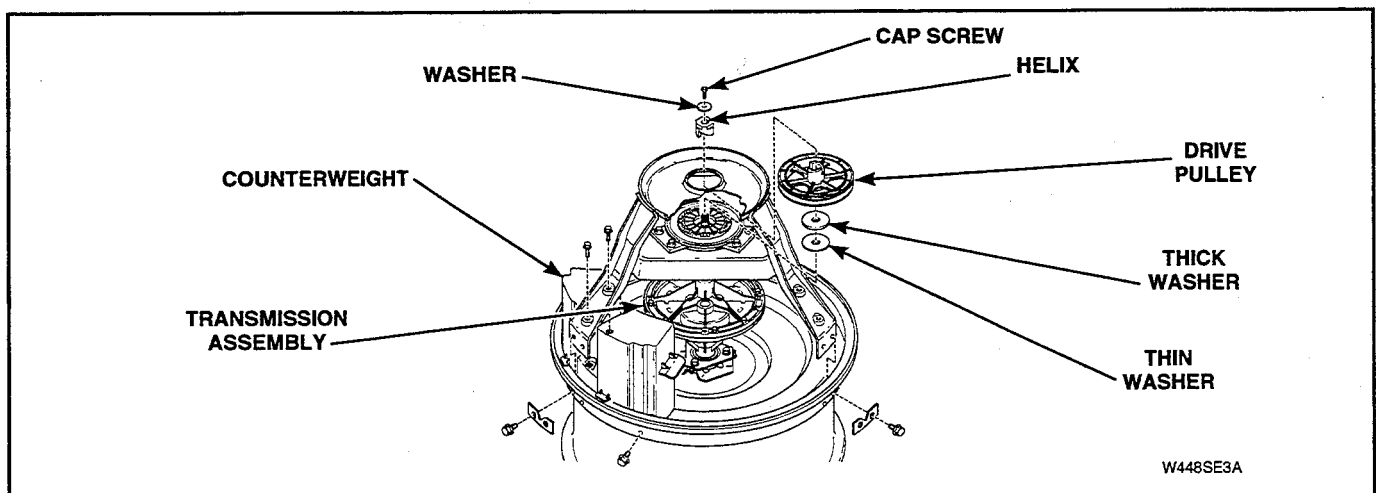
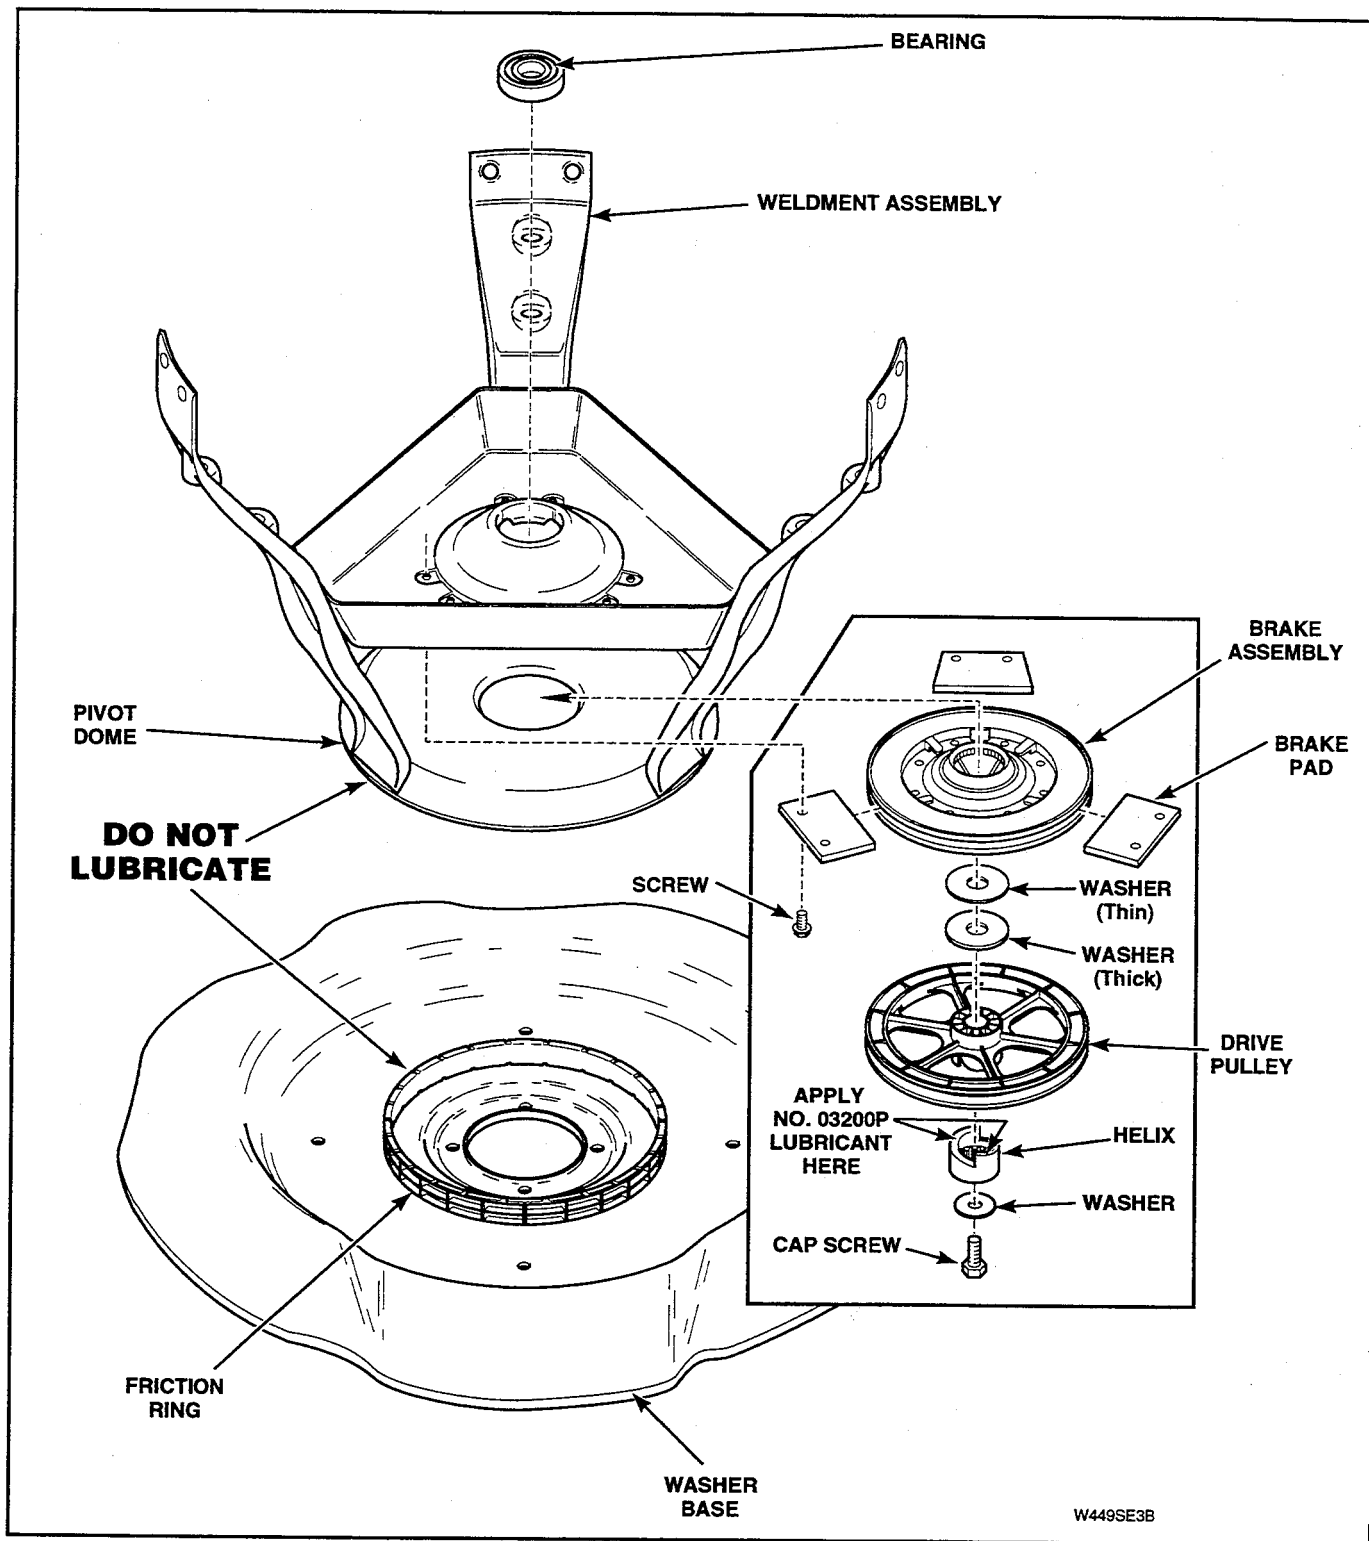

Figure 5-34
Figure 5-35
- m. Remove screw, washer and helix holding drive pulley to input shaft and transmission assembly. See Figure 5-34.
NOTE: When reinstalling pulley, place a small amount of No. 03200P Lubricant on top side of the drive pulley that will be contacting large flat washers. See Figure 5-34 for assembly sequence. Lubricate helix ramps and bore with a small amount of No. 03200P Lubricant. See Figure 5-35.
- o. Remove screws holding three brake pads and brake assembly to weldment assembly. See Figure 5-35. Then remove brake assembly and pads off bottom of weldment assembly.
NOTE: Refer to Figure 5-35 for assembly sequence.
- Remove screw, washer and helix holding drive pulley to input shaft and transmission assembly. See Figure 5-34.
- q. Remove screws and lockwashers holding counterweight and each support leg to outer tub. See Figure 5-34. Then lift transmission, weldment assembly and counterweight off tub.